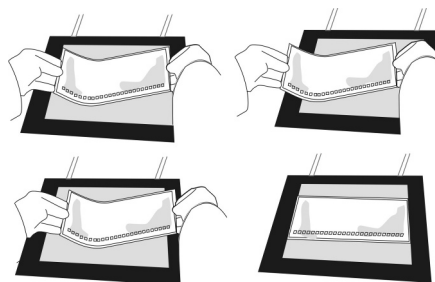

Fig. 2
4. Remove the gel from its packaging. Remove the cover-film. Grip the gel (surface-up) at the two lateral edges at the protruding film, bend it like an “U” and slide the film-backing left and right on the cooling plate to distribute the cool contact fluid evenly (Fig. 2). Remove excess cooling fluid along film edges with lint-free tissue paper.